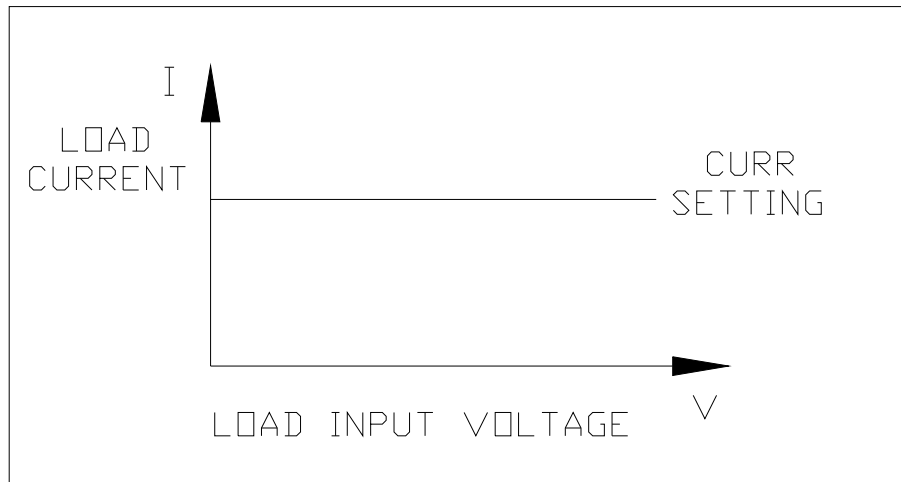

Figure 3-3 Constant Current Mode
In CC mode two operation functions (STATIC, DYNAMIC) may be selected. The STATIC function checks the stability of the output voltage from a power supply. In some modules (single channel/module) there are two current levels (A or B) for the static function. Both states A and B use the same range. The user can select A (CCL1 or CCH1) or B (CCL2 or CCH2) through the **A/B** key on the module's keypad or the mainframe keypad when level1 (A) or level2 (B) changes. Slew rate determines the rate at which the load level changes from one level to the other. Figure 3-3 shows the current level of the load module after pressing of **A/B** key.